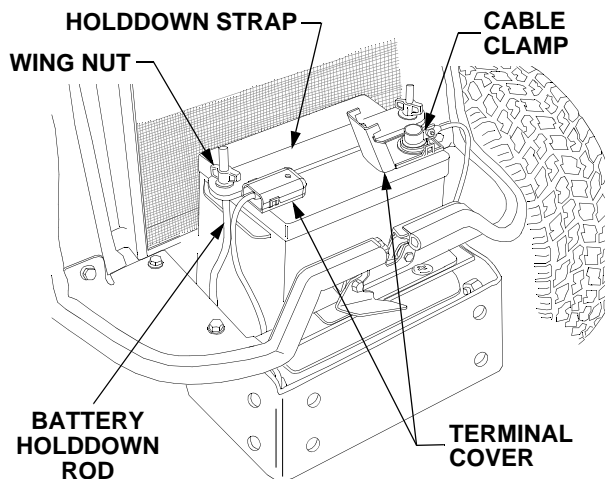

Figure 33
- Remove the two wing nuts and the battery holddown strap from the battery holddown rods. See Figure 33.
- Spread the locking clips on the sides of the terminal covers and lift the tops of the covers to expose the battery connections. See Figure 33.